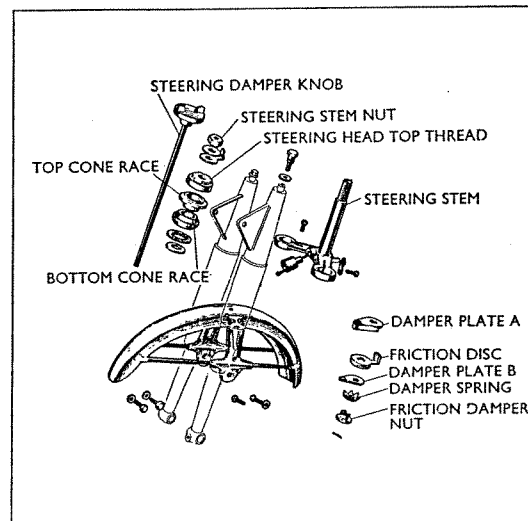

Fig. 4.16 Sectional view of steering
8. Loosen the steering head stem nut. (Refer to Fig. 4.16)